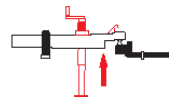

Figure 33
8. Raise the trailer coupler above the hitch ball. (Figure 33)